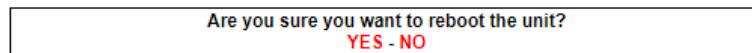

Figure 63. Configurator GUI (unit reboot dialog)
- The unit reboot dialog will be shown (Figure 63 (page 139)).